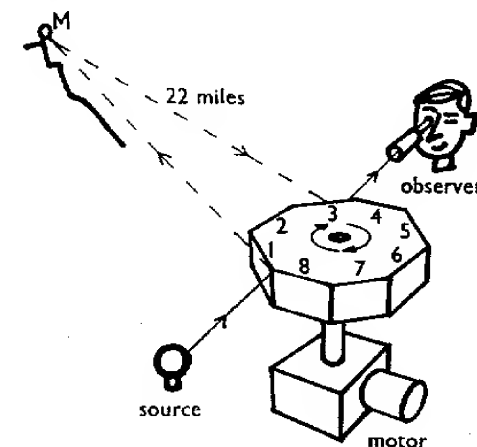

Fig. 222
A. A. Michelson, an American physicist, spent many years measuring the velocity of light. A simplified version of one of his methods is illustrated in Fig. 222. An octagonal mirror was used to reflect the light coming from a powerful arc lamp. The beam then passed to a mirror (M) situated 22 miles away on Mount San Antonio. From there the beam was reflected